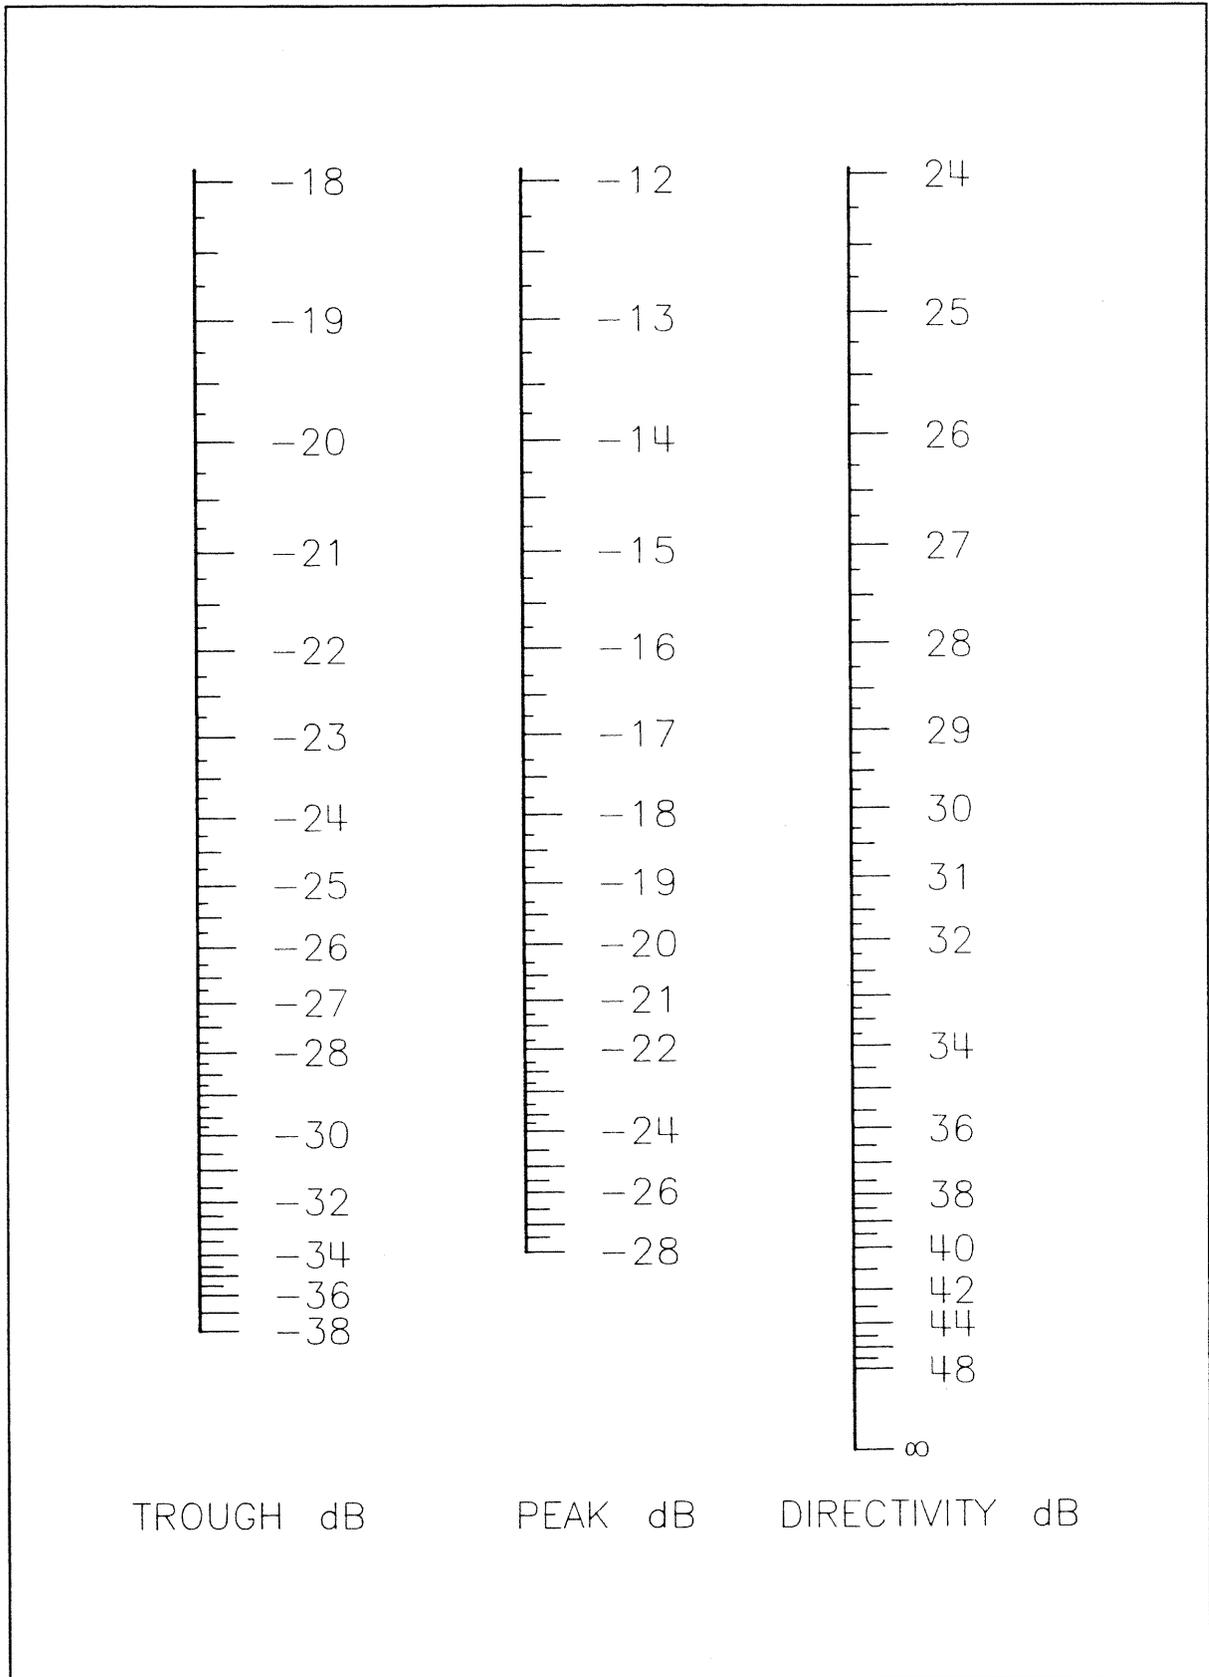

Figure 4-5B. Directivity Nomogram
- Follow the *Directivity Nomogram Instructions* to use the nomogram in Figure 4-5B to determine the directivity (**DIR**) and the maximum and minimum directivity values (**Dir Range**).
2. Using the directivity nomogram in Figure 4-5B, align a straight edge to cross the Trough Scale at the value measured for the **Trough Value** and the Peak Scale at the value measured for the **Peak Value**.
4. Using a compass, set one leg at ∞ on the directivity scale in Figure 4-5B. Set the other leg at the system uncertainty (given on the *Performance Test Record*).